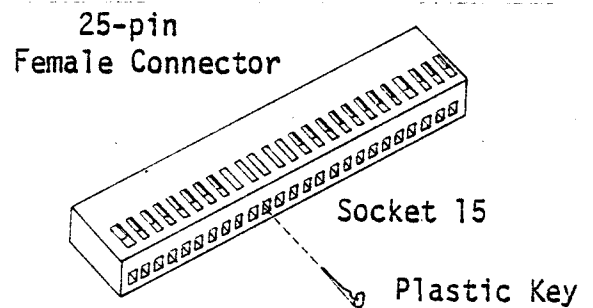

Figure 5-21. Insert Plastic Key Into Socket
B. Installation of Cable Assembly Into 25-Pin Female Molex Connector (Figures 5-21 and 5-22)